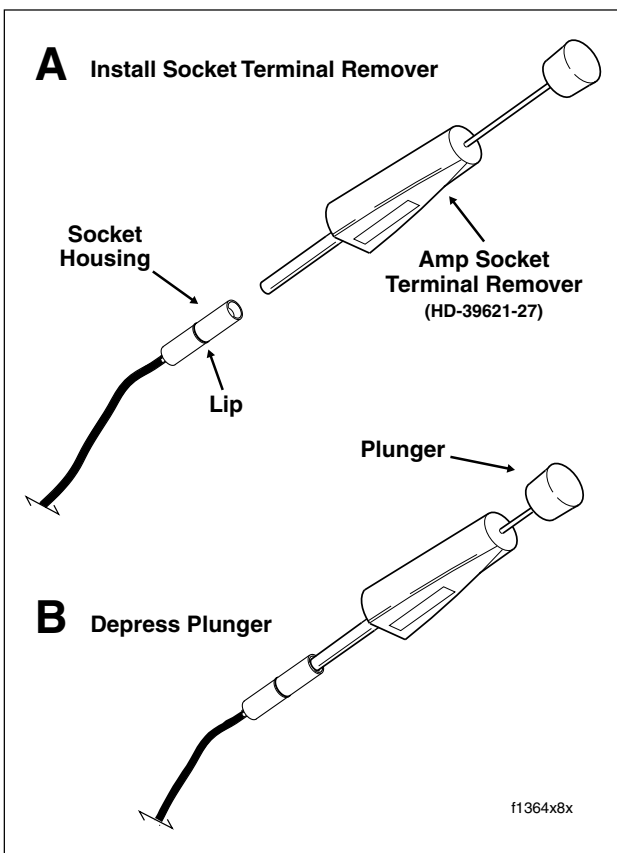

Figure B-42. Remove Terminal from Amp Socket Housing
3. Fit the barrel of the Amp Socket Terminal Remover (HD-39621-27) over the socket, and while rotating the tool slightly, push until it bottoms in the housing. Allow the plunger to “back out” of the handle. See Figure B-42.